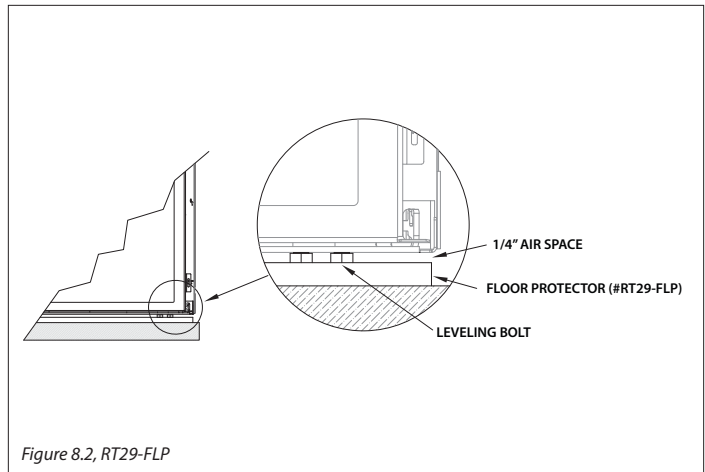

Figure 8.2, RT29-FLP
- Combustible Mantel Projections - As referenced in Figure 8.2, the 9" (229mm) mantel can start at 8-1/4" (210mm) above the top of the appliance. Mantel projections can increase 1" (25mm) of depth for every 1" (25mm) of height starting at the 9" (229mm) mantel.
- If you combustible flooring underneath the fireplace, then the floor protector (Part # RT29-FLP) must be installed and there must be a total of 3/4" of space between the insert and the floor. See Figure 8.2.
See Figure 8.2 above for an enhanced view of the RT29-FLP